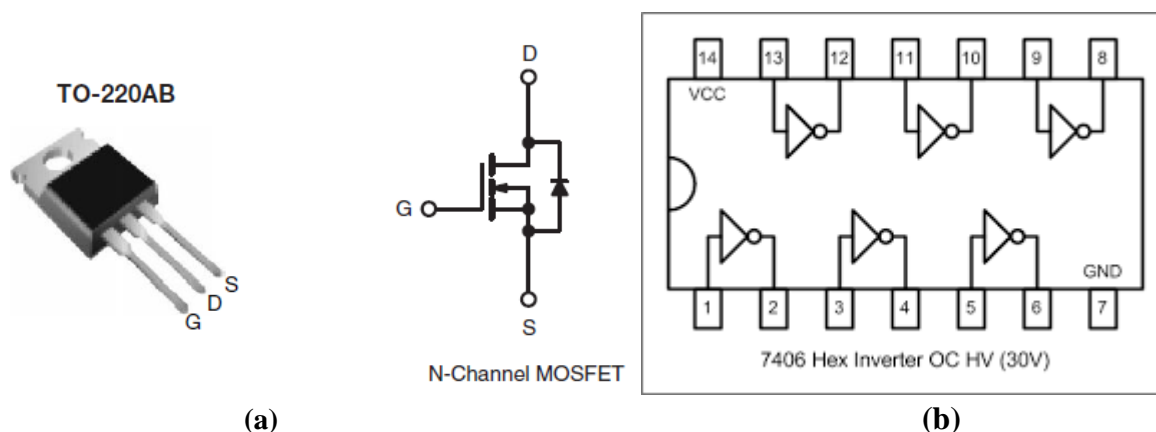

Figure 2: (a) Pin configuration of IRF 540 (b) Pin configuration of SN7406
- Capacitor C₃ should be connected as close to the power end of the load as practical. Place a 470 μF electrolytic capacitor, in parallel with a 0.1 μF film capacitor, as shown in Figure 2.